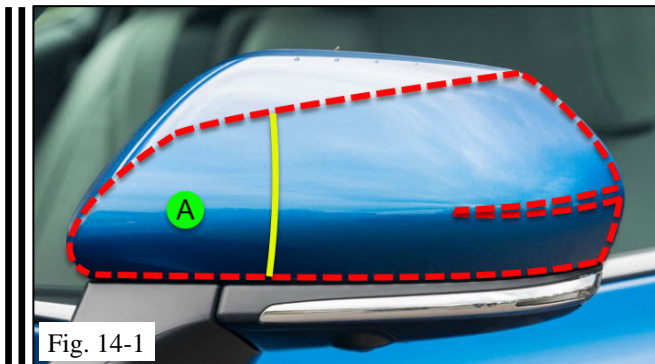

Fig. 14-1
- (a) Align the lower edge within the proper tolerance and the inner edge with the curve of the body line. Use the squeegee to apply the film so that it is secure. Use alcohol solution as needed to ensure placement is kept (Fig. 14-1).